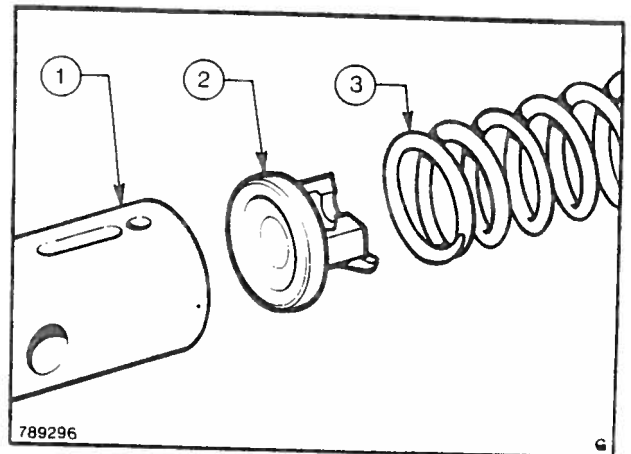

Fig. 53 Tappet guide, support and spring
6. Turn the pump upside down and turn the control sleeve so that its lever points forward. Place the lower spring support (Fig. 53) on the pump plunger, immerse the plunger in test oil, and refit the plunger to the barrel.